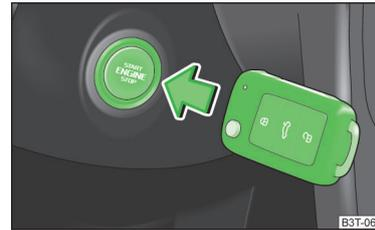

Fig. 136
- Press the starter button directly with the key **» Fig. 136**.
During an emergency engine start-up, the key bit must face the starter button **» Fig. 136**.